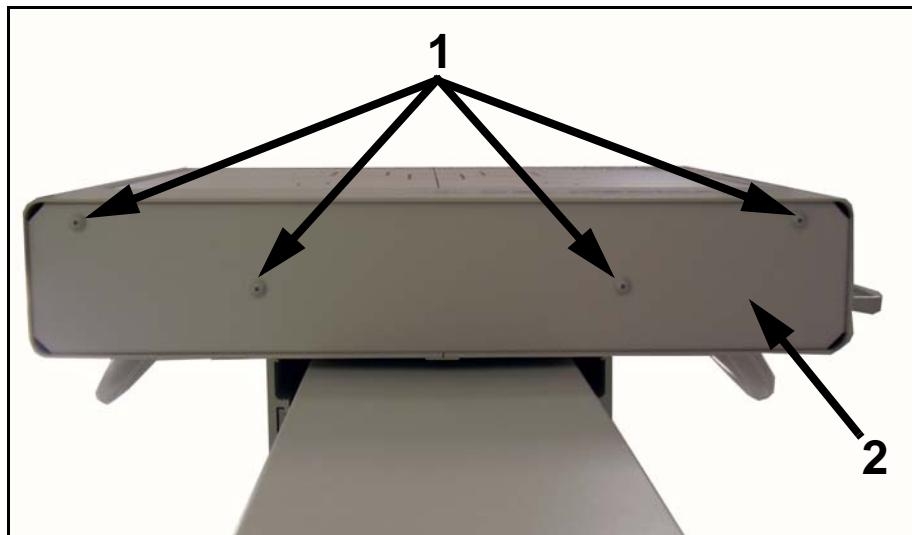

Figure 6-20. Bottom Cover Screws
- 4 Unscrew four bottom cover screws (1 in Figure 6-20) and remove bottom cover (2).